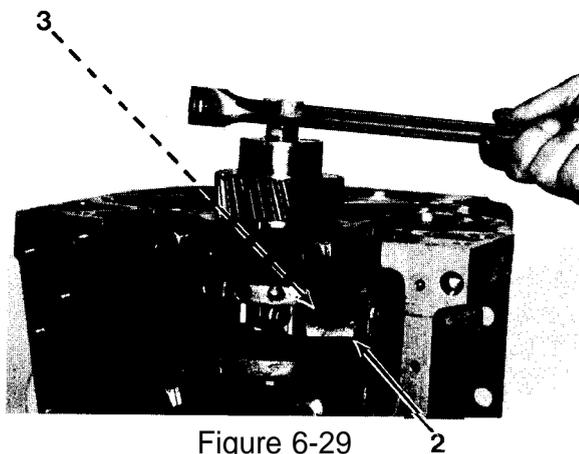

Figure 6-29
26. Rotate crankshaft after each connecting rod cap (2) is installed. Crankshaft must rotate freely. If crankshaft does not rotate freely, check bearing halves (3, Figure 6-29) (refer to step 13).